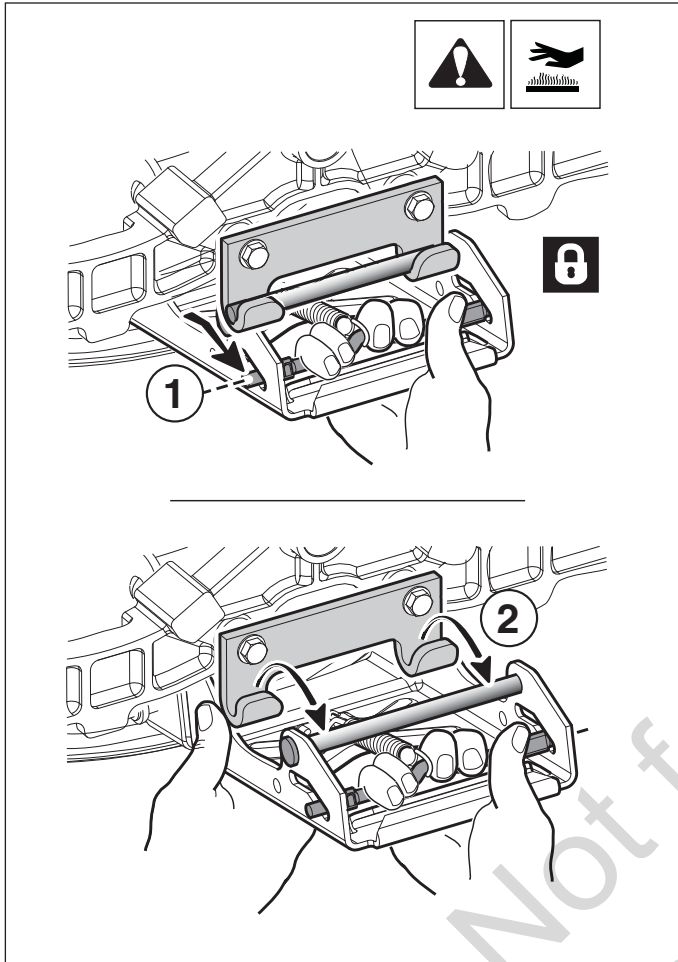

Figure 21
8. Turn the wheels straight ahead. Pull back on spring-loaded lever and lift mower hitch off of the tractor hitch brackets (see 1-2, Figure 21).